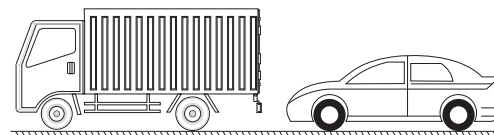

Figure 8
③ If the sound of other vehicles' horns, the engine's sound of motorcycles or the air brake sound are too close to the sensors, and their frequency is around 58KHZ, they may cause false alarms, as shown in Figure 8